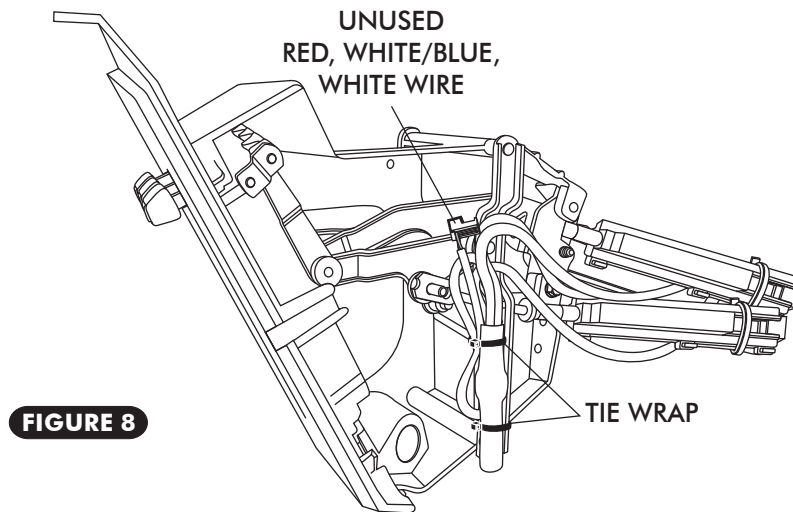

FIGURE 8
- USING THE SUPPLIED TIE WRAPS, TIE THE WIRES TO THE CONTROL PANEL AS SHOWN IN FIGURE 8, BELOW.